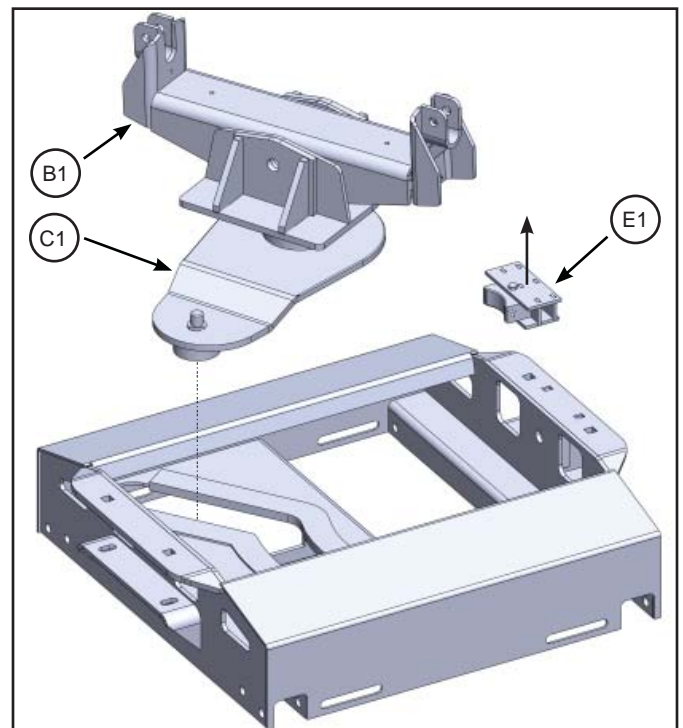

Figure 3
5. Remove the nylon stop block {E1} from between the way tubes and set aside (see Figure 3).